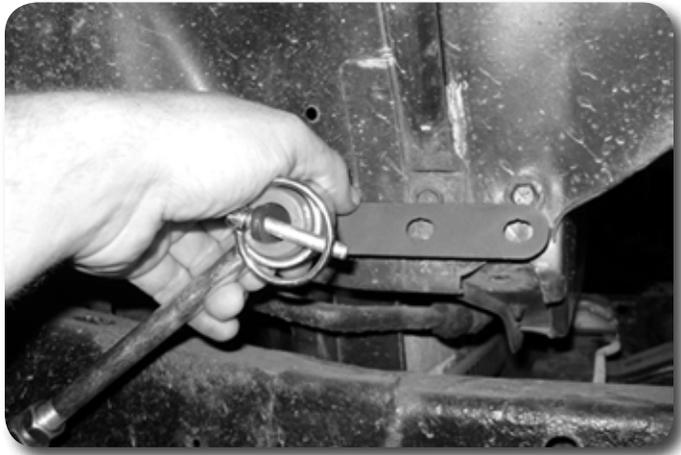

Figure 3
7. There are driver side and passenger side specific brackets to hold the sway bar links out of the way when disconnected. The brackets will angle downwards when installed on the correct side of the vehicle with the typical installation. Attach one of the disconnect brackets to the sway bar bushing with the lynch pin. Rotate the sway bar and link up to the disconnected position to locate the best mounting position. **Figure 3**
8. In most cases the brackets can use the factory grill and fender support bolts. Remove these bolts and loosen the upper strut bolt. Place the bracket behind fender support strut. Ensure the disconnect will swing up to meet this position. Replace bolts and tighten. **Figure 3.** Test the disconnect function - some slight adjustment may make operation easier by sliding the bracket within the slots. Repeat this process on the other side.